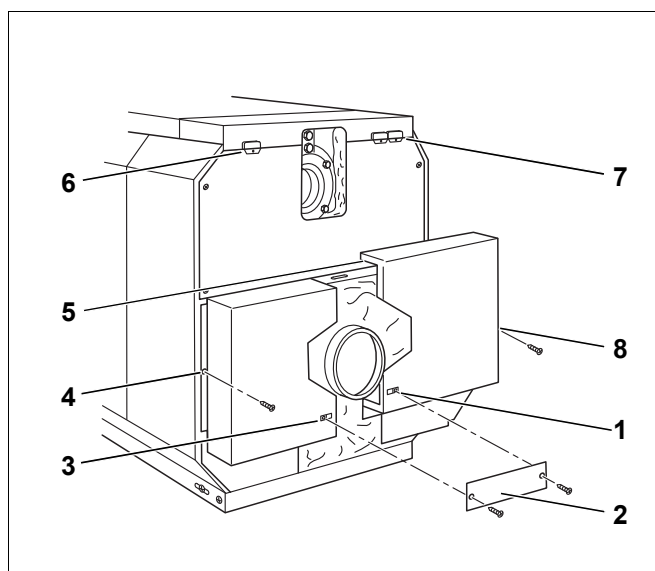

Fig. 56 Installing rear boiler panel components
- Insert the snap nuts into the l.h. and r.h. side panels and into the rear boiler panel components (Fig. 56, [1], [3], [4] and [8]).
- Hook the lower boiler panel sections on the left and the right into the slots of the edge of the upper rear boiler panel and the side panel (Fig. 56, [5]).
- Secure the link plate (Fig. 56, [2]) below the flue outlet on the rear boiler panel components using self-tapping screws.
- Secure the plastic cable glands either on the l.h. or r.h. side of the upper rear boiler panel (Fig. 56, [5] and [6]).